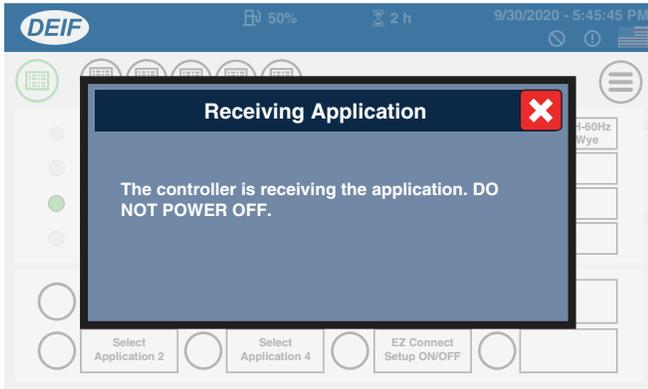

Figure 174. Receiving Application Screen
- The **Receiving Application** screen will be displayed next (Figure 174). After this message has cleared, repeat steps 8–10 on the remaining units.